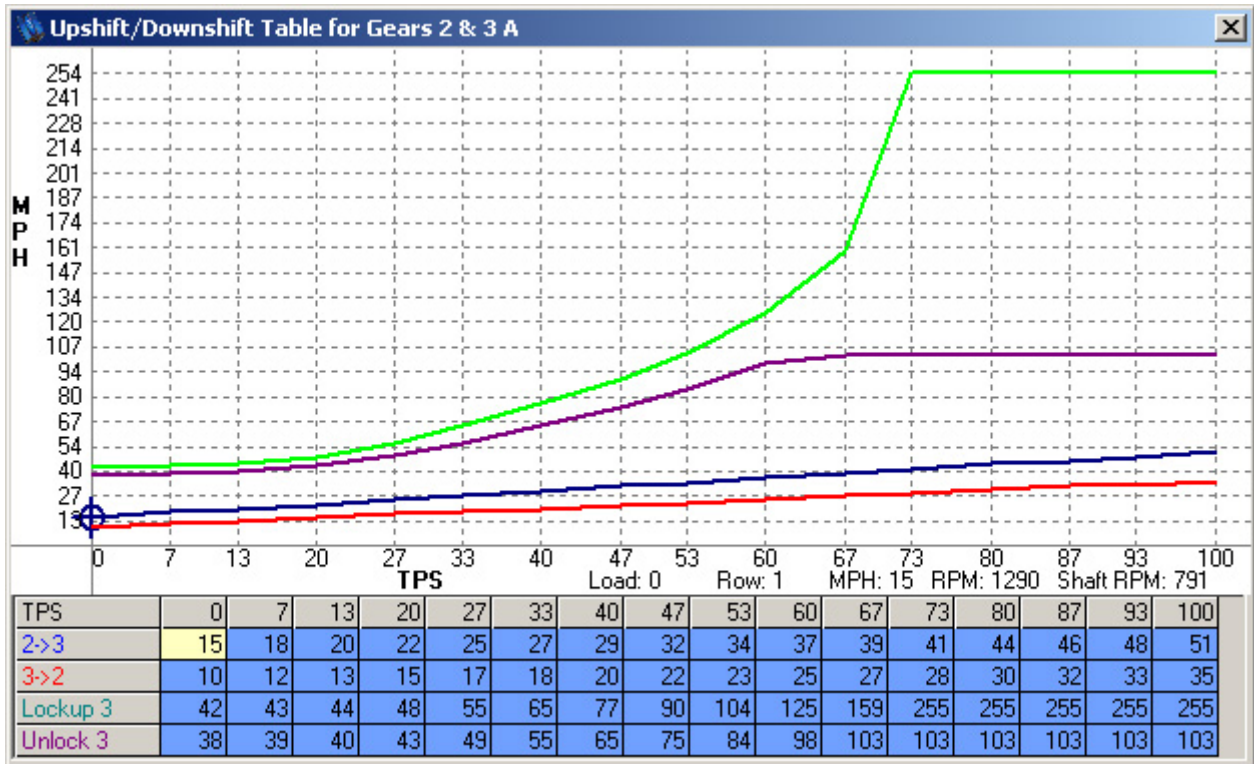

Figure 13. Upshift/Downshift Table when TCC lockup per gear is enabled
4.3. TCC lockup per gear. Some advanced users need the ability to tune torque converter lockup parameters in every gear. This can significantly complicate the upshift/downshift forms and this feature should only be used by advanced users and for installations requiring this complexity. Once enabled, this feature gives the installer the ability to alter the TCC lockup and unlock points in each upshift/downshift table based on speed and load, see *Figure 13.*